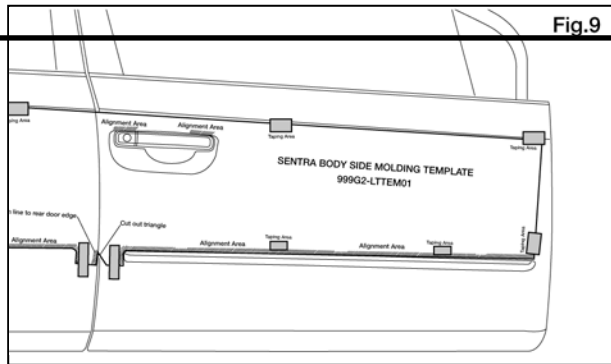

Fig.9
- g) Remove the three pieces of two-inch (51 mm) long masking tape from the template and body side molding at the front, middle, and rear. (Fig. 9)